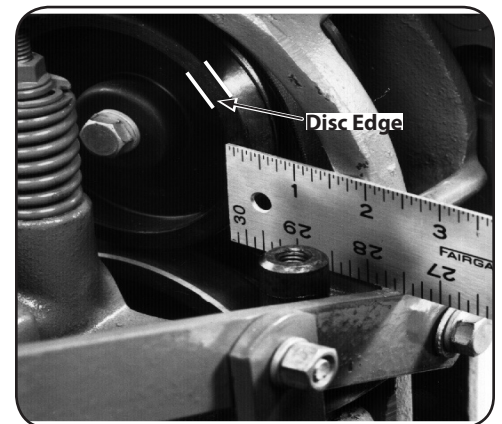

Figure 5-18
1. Measure the width of the outside edge of the disc as shown in Figure 5-18. Replace the disc before the rubber edge wears to a thickness of $\frac{1}{8}$ " or less. Failure to do so could cause the steel underneath the rubber to damage the transmission pulley.